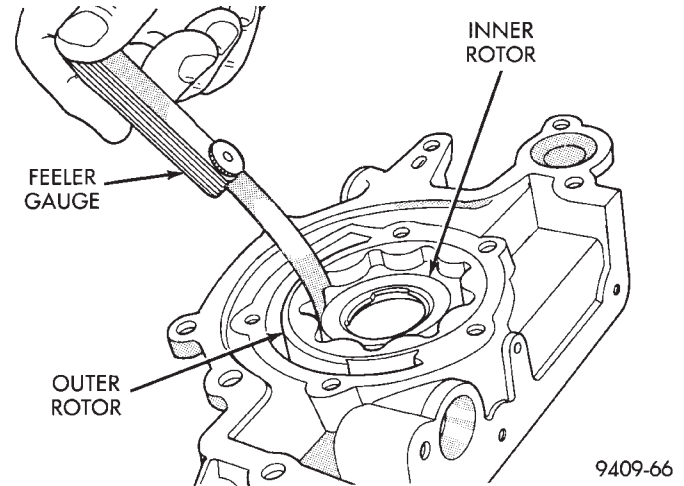

Fig. 115 Measuring Clearance Between Rotors
(6) Install inner rotor into pump housing. If clearance between inner and outer rotors (Fig. 115) is .203 mm (.008 inch) or more, replace both rotors.